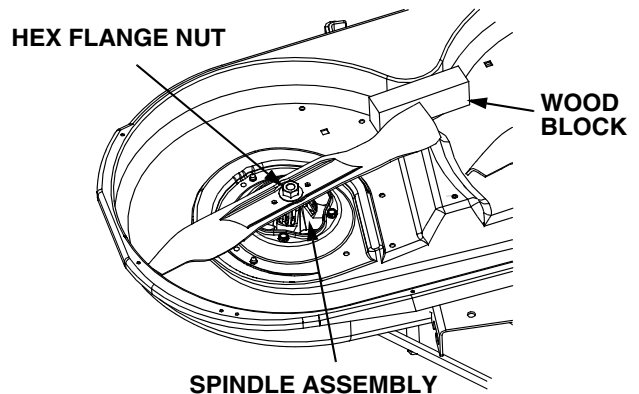

Figure 36
- Use a 15/16 inch wrench to hold the hex nut on top of the spindle assembly when loosening the hex nut securing the blade. A block of wood may be placed between the deck housing and the cutting edge of the blade to help in breaking loose the hex nut securing the blade. See Figure 36.